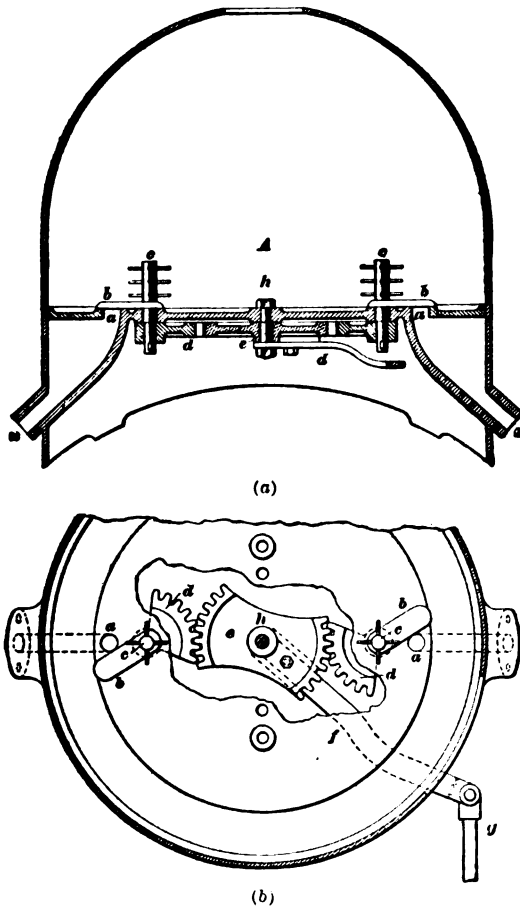

FIG. 27.
**68. Construction and Operation.**—A sectional view of a sand box, the valves of which are operated by hand by means of a lever and reach rod, is shown in Fig. 27 (*a*), while